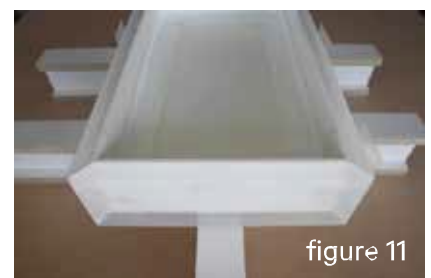

figure 5
5. Remove the excess Tenacious Tape by running a sharp, flat knife blade along the mitre edge (see figure 5). Ensure tape is free of tears on the mitre edge and does not stick to mitre face, leaving a residue.